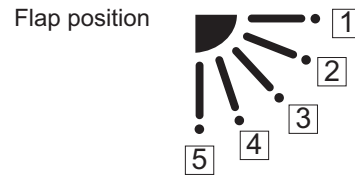

Fig. 2-3
- * Setting data "**YYYY**" (refer to Fig.2-3)
When the flap position is set to 4 or 5 and the unit is in the cooling or dry mode, the flap position is moved to 3 and the operation is started. (refer to Fig.2-3)
At this time, the unselected flaps are moved to the position 1. (refer to Fig.2-3)